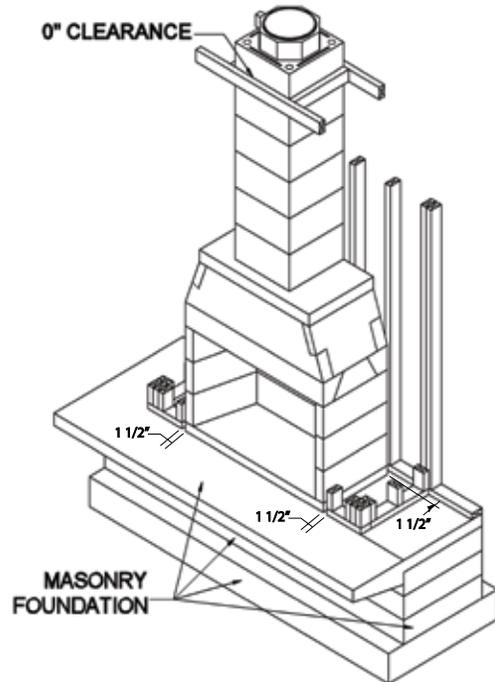

FIGURE 2
The STANDARD Series firebox side walls and back wall require 1-1/2” clearance. (Figure 2)
All DM 44 and 54 chimney components require 0” clearance. (Figure 2).
The STANDARD Series fireplace must sit upon a concrete support slab designed to bear the total installed weight of the fireplace and DM 54 chimney system. (See Figure 2 for additional details). These support slabs can have no wood underpinings. (Figure 3)
B. Concrete support slabs for STANDARD Series fireplaces must provide the noncombustible hearth extension substrate needed to support the code required noncombustible hearth extension finish materials. (Figures 2 and 3)